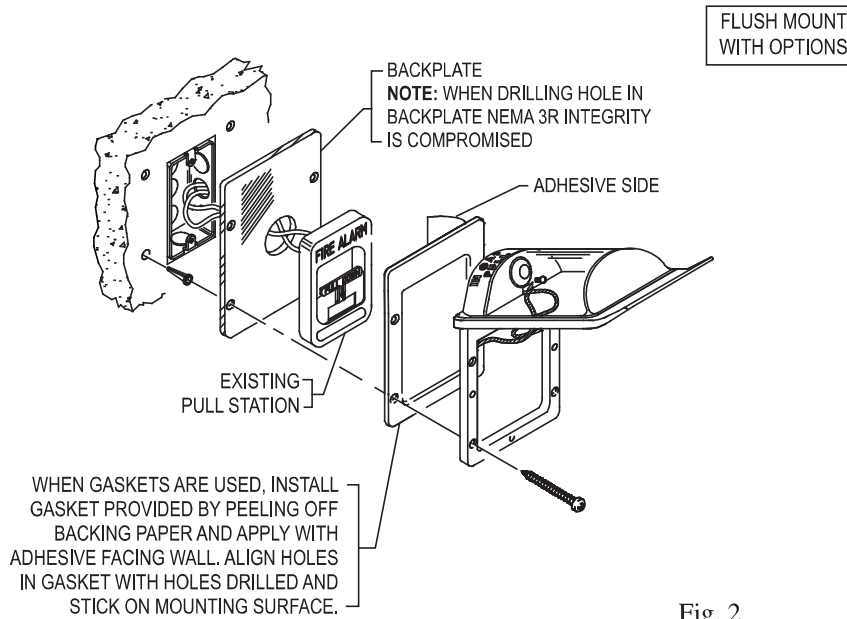

Fig. 2
2. If using STI-1280 backplate, refer to Fig. 2 and 3 for install instructions depending on your application. **NOTE:** When drilling hole in backplate NEMA 3R integrity is compromised. Weather Stopper, STI-1250, is designed to meet the requirements of IP54.
3. Align frame and put screws through frame holes, into anchors and tighten (if used, through spacer, gaskets and optional backplate). For STI-1200, continue to Step 8. NOTE: When using STI-3100 spacer, be sure to install conduit knockout, any additional ventilation and gaskets before you tighten to the wall. When using conduit gasket STI-3004, place gasket around conduit in proper location and install the spacer. For added protection a bead of silicone may be applied to conduit fitting and between STI-1280 backplate and wall (Fig. 3A). Refer to exploded view of flush and surface mount installation options Fig. 2 and 3. Weather Stopper, STI-3150, IP equivalency may vary depending on selection of conduit inserts used.